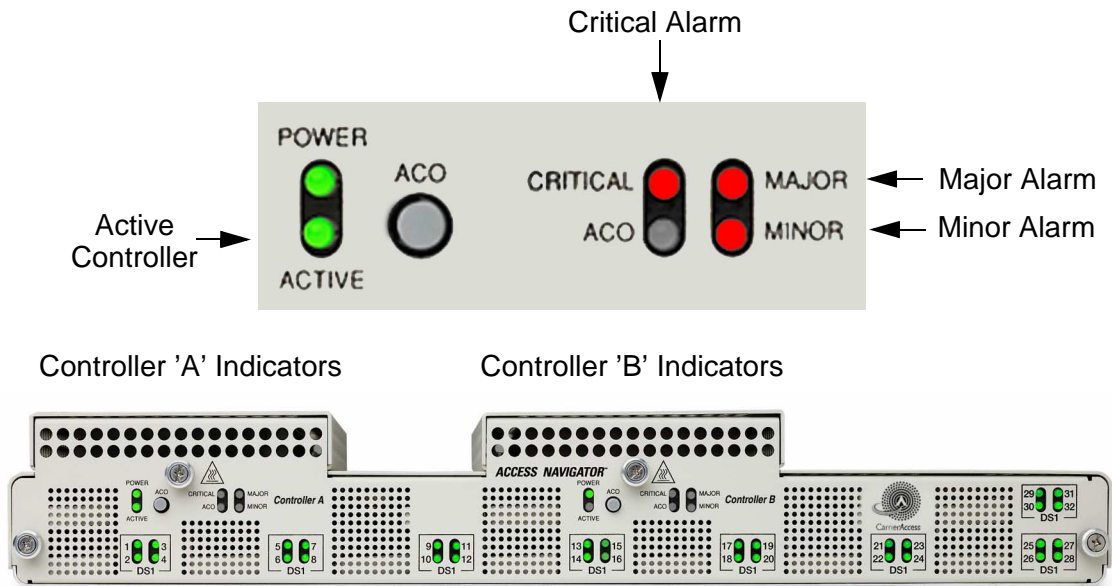

Figure 6-30. Location of Alarm Status Indicators
**Requirement:** Active Controller card Critical Alarm indicator lights (Figure 6-30).
**Requirement:** Active Controller card Major Alarm indicator lights (Figure 6-30).
**Requirement:** Active Controller card Minor Alarm indicator lights (Figure 6-30).